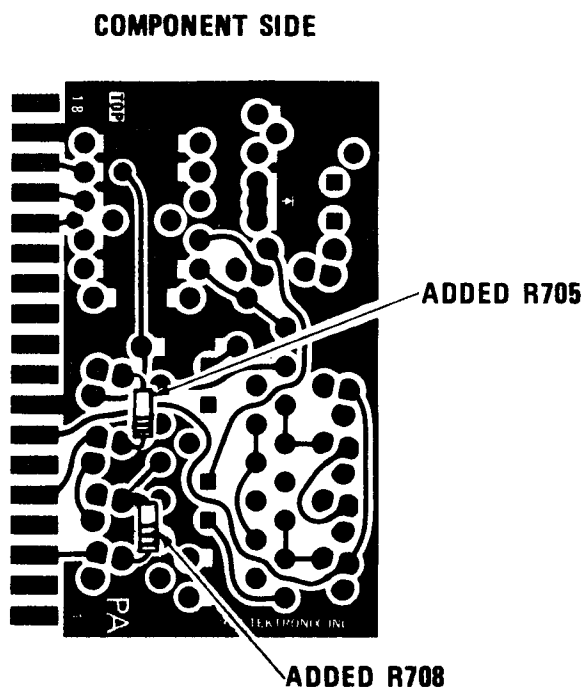

Fig. 2. Locations of Added Components on Single Beam Auxiliary Circuit Board.
- ( ) 8. SINGLE BEAM AUXILIARY CIRCUIT BOARD. Add two 4.3k $\Omega$  resistors, R705 and R708, on the component side of the Single Beam Auxiliary circuit board as follows (refer to Fig. 2):